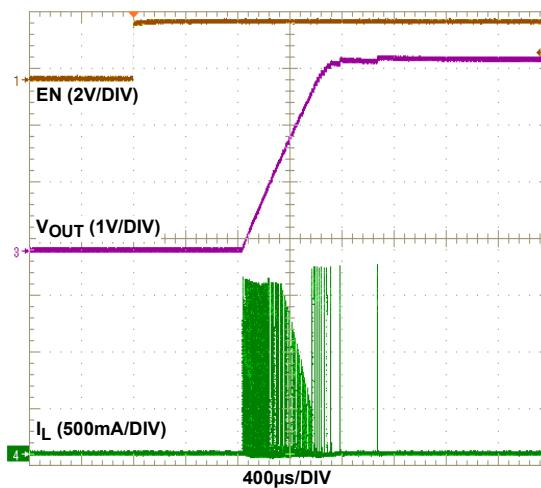

FIGURE 2. SOFT-START ($V_{IN} = 3V$, $V_{OUT} = 3.3V$, NO LOAD)
Refer to the following Quick Setup Guide to configure and power up the board for proper operation. During the power-on process, the expected waveforms are shown in Figures 2 and 3.
7. Monitor the output voltage start-up sequence on the scope. The waveforms will look similar to that shown in Figures 2 and 3.